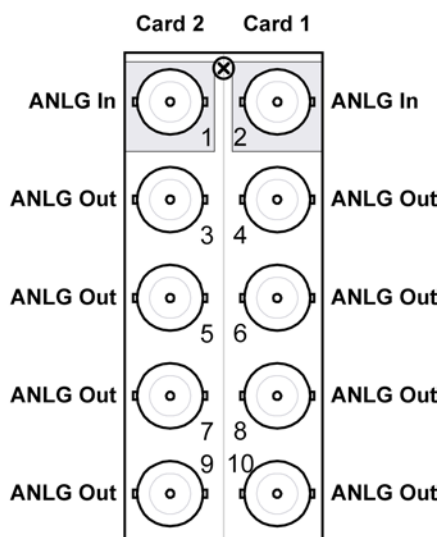

Figure 6. Cable Connections for the R2S-8705 Rear Module
- **R2S-8705 Split Rear Module** — Each card occupies one slot and provides four outputs. Note that each Rear Module provides connections for two cards. Ensure the input is terminated on the card at **JP1**. Refer to **Figure 6** for cable connections.